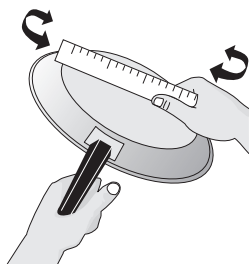
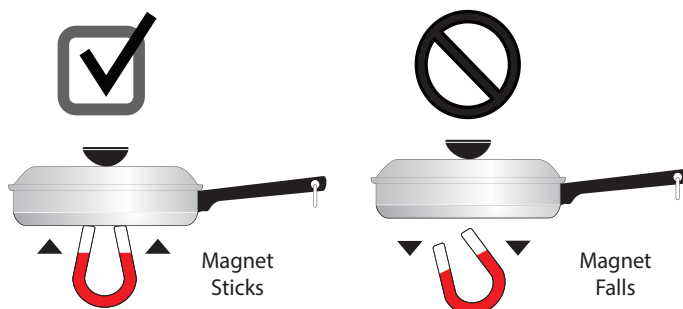
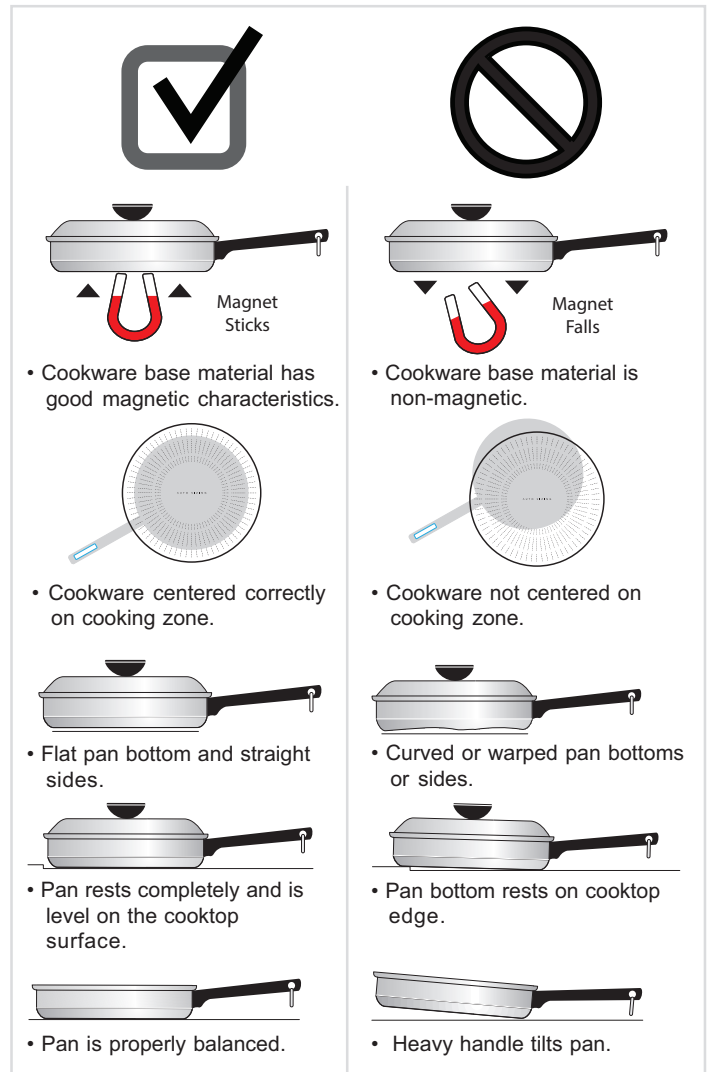

Figure 2: Ruler test
Figure 3: Magnet test
Figure 7: Pan sensing conditions
The size and type of cookware used will influence the heat setting needed for best cooking results. Be sure to follow the recommendations for using proper cookware as illustrated in Figure 2 and Figure 3.
Check for flatness by rotating a ruler across the bottom of the cookware (see Figure 2). Cookware should have flat bottoms that make good contact with the entire surface of the cooking zone (see Figure 7 on page 14).
- **Stainless Steel** - Slow heat conductor with uneven cooking results. Durable, easy to clean, and resists staining. Some types of stainless steel will not work on an induction cooktop. Use the magnet test (Figure 3) to check stainless steel cookware.
- **Porcelain-enamel on metal** - Heating characteristics will vary depending on base material. Porcelain-enamel on a magnetic metal will work on an induction cooktop. Use the magnet test (Figure 3) to check porcelain-enamel cookware.
To see if a piece of cookware will work on your induction cooktop, try to stick a magnet to it (see Figure 3).
The conditions that generate a flashing message are illustrated in Figure 7. If the situation is not corrected, the cooking zone will automatically turn off after three minutes. It's a good idea to lower the power setting before correcting the pan sensing message.